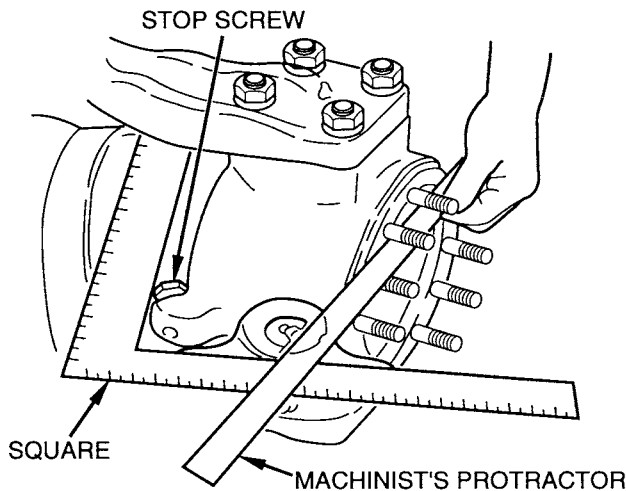

Figure 24 Measuring Turn Angle
20. Install steering stop screw (29) and lock nut (28) in front ear of the ball socket (16) with machined head of the stop screw facing towards the axle ball (2).
Tip: Turn the ball socket (16) toward the front. Use a square and machinist's protractor, as shown in Figure 24, to adjust the turn angle to 25°. Turn the stop screw (29) out until it hits the neck of the ball (2) and lock in place with lock nut (28).
22. Install the last two capscrews and washer in axle ball (2). Torque all nuts and capscrews in axle ball to 320 lb. ft. (434 N•m) wet.